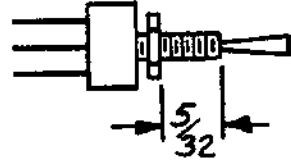

FIG. 10-1
- ( ) Position the hex nut on the reset switch as shown in Fig. 10-1.